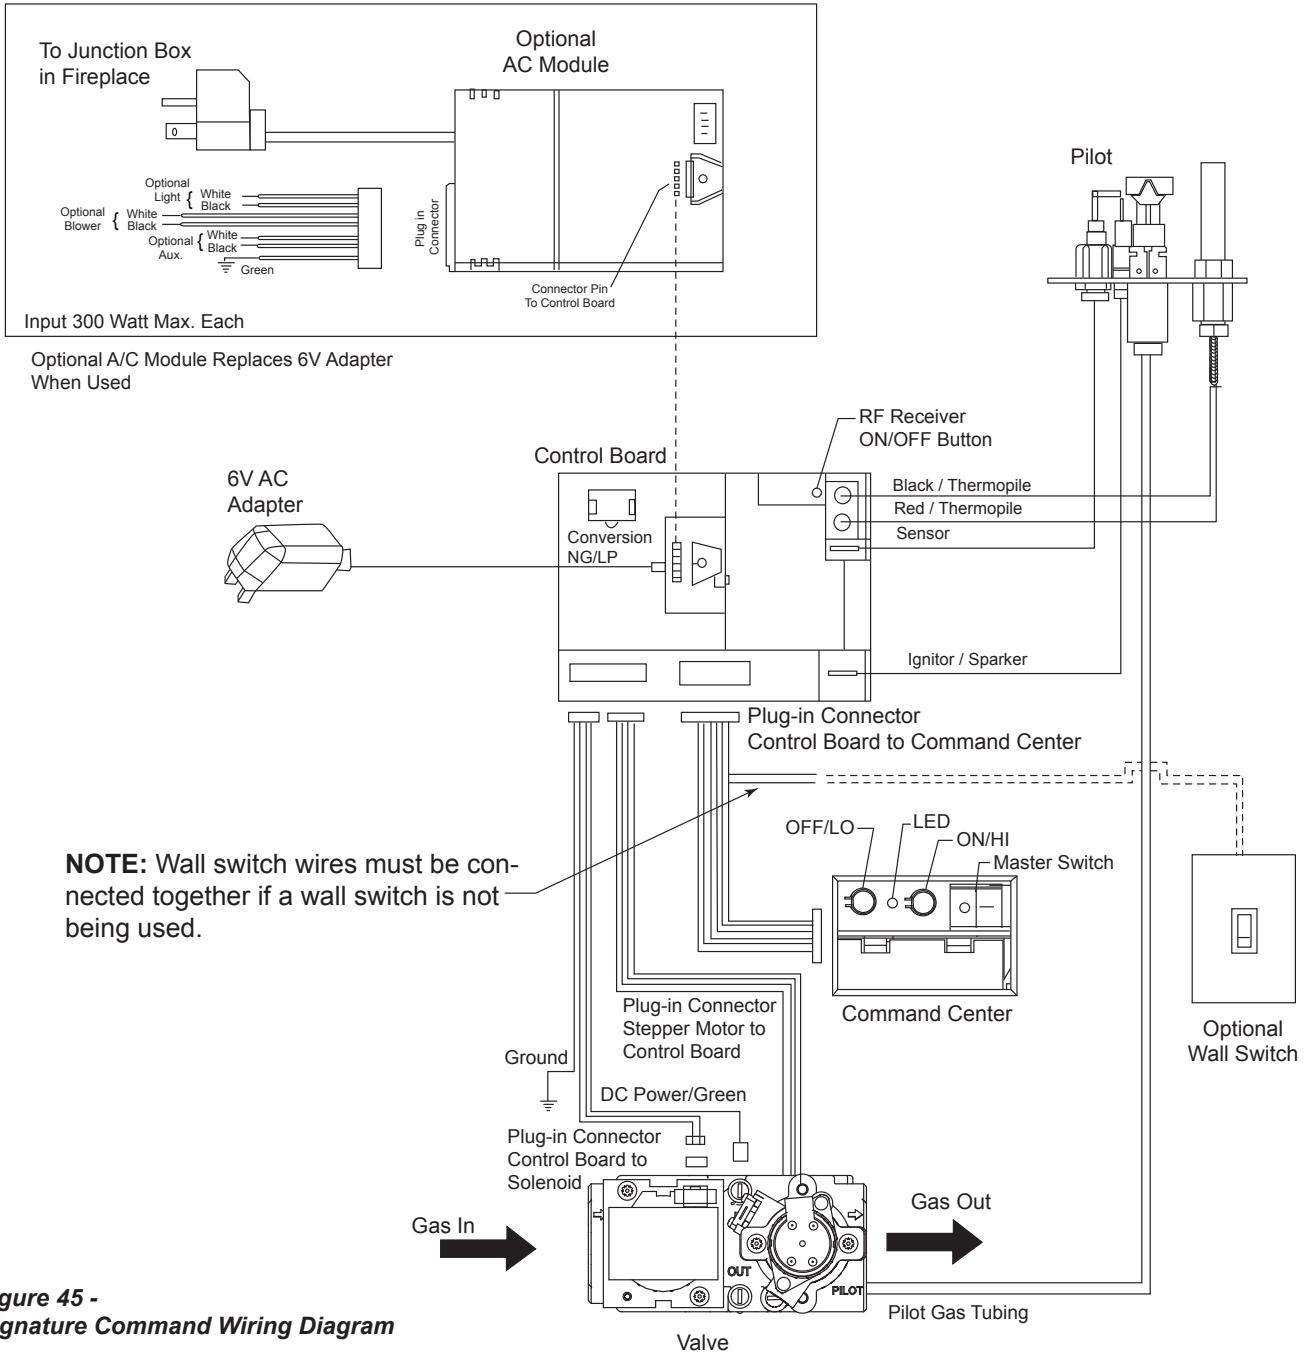

Figure 45 - Signature Command Wiring Diagram
The wall switch wire connection is located off the 2 ft. wire harness from the control box to the command center. *Figure 45*. The connection is labeled “Wall Switch”. Unplug the male and female connectors and connect the two (2) low voltage wires provided. Run wire to desired location on wall. Up to 50 ft. of 18 ga. wire may be used if necessary. Attach wires to wall switch. Mount the wall switch in to junction box and screw on cover.